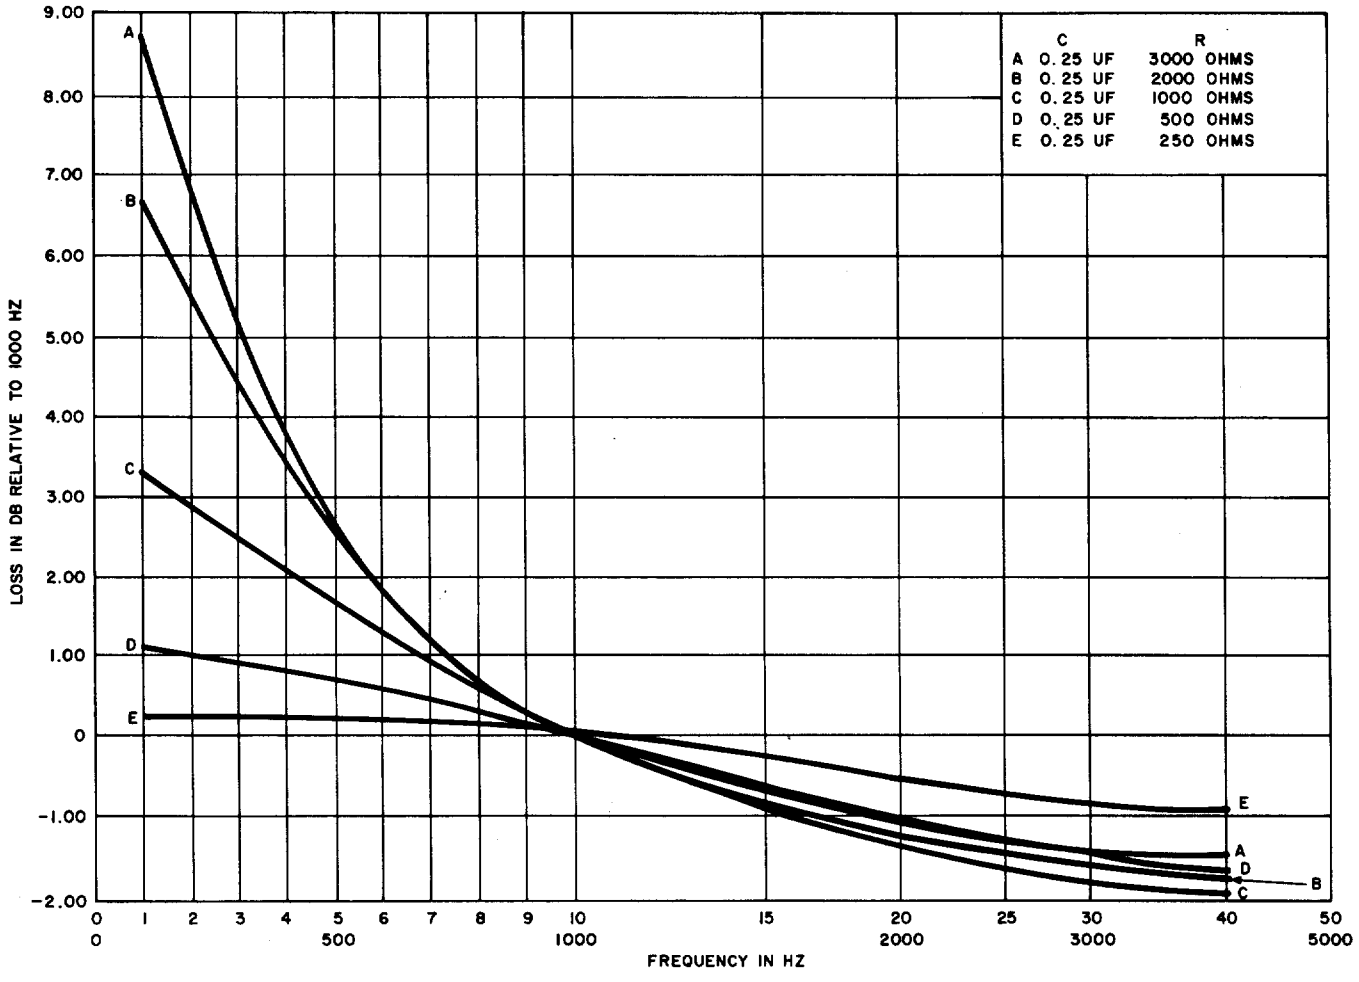

Fig. 4—359K Equalizer—Loss-Frequency Characteristics—Between 600 Ohms—
**3.05** The 359K equalizer provides compensation for loss distortion in the 4-wire line facilities at frequencies up to approximately 1000 Hz. Figures 4 and 5 illustrate typical equalization losses which may be obtained by various combinations of C and R. Figure 4 shows the results of keeping C constant and varying R; Fig. 5 shows the results of keeping R constant and varying C. Adjustment settings of the equalizer normally used have little effect on either the transmission loss or the transmission frequency characteristics above 1000 Hz.